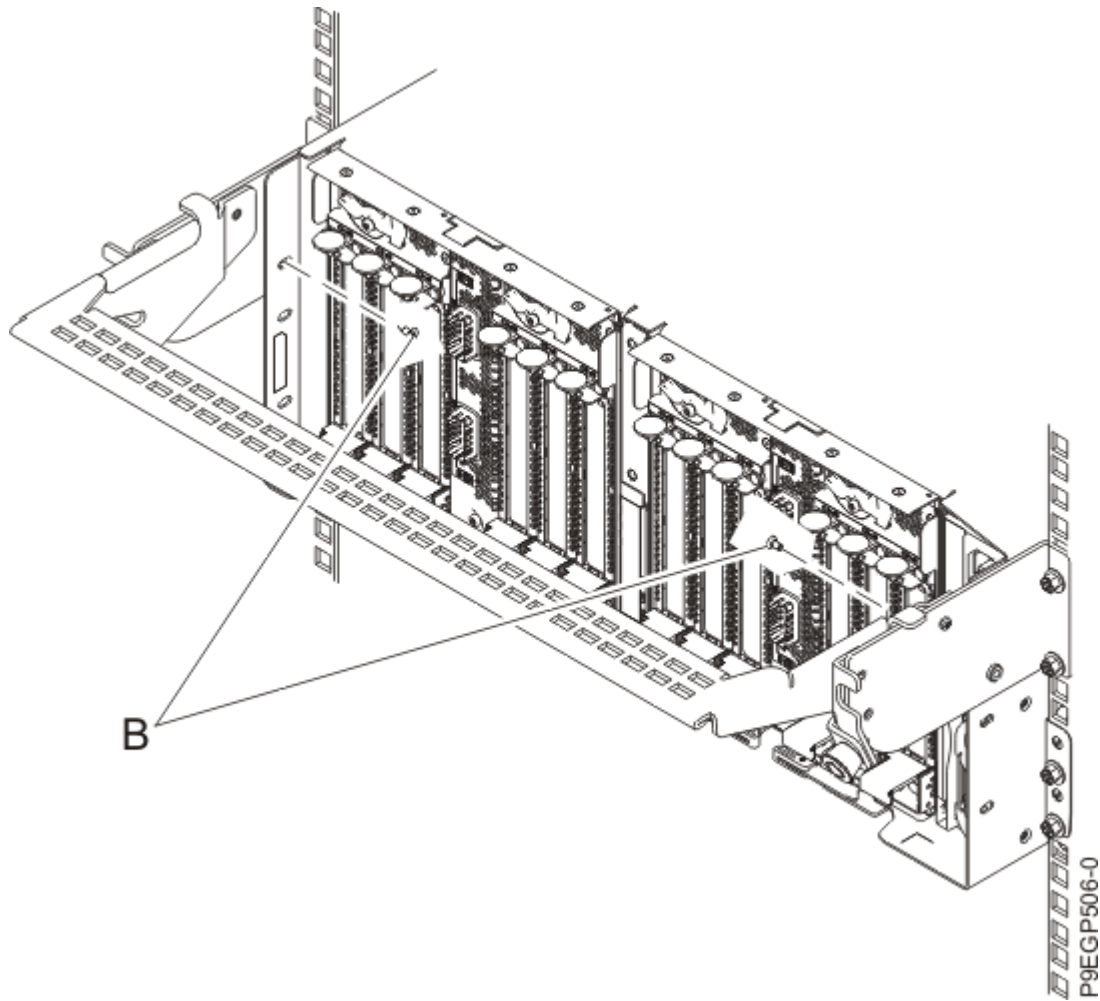

Figure 14: Applying the securing screws
12. To secure the drawer to the rack, apply the two securing screws **(B)**, as shown in Figure 14 on page 18.